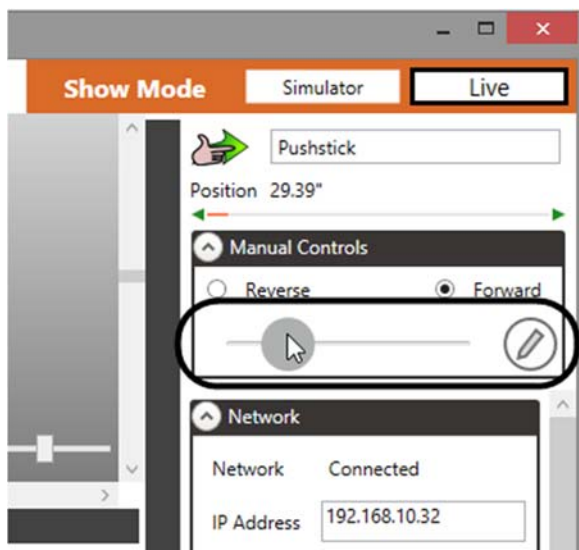

Figure 84
4. Make sure that there are no obstructions in the motor's path, and slowly start increasing the speed slider (Figure 84).